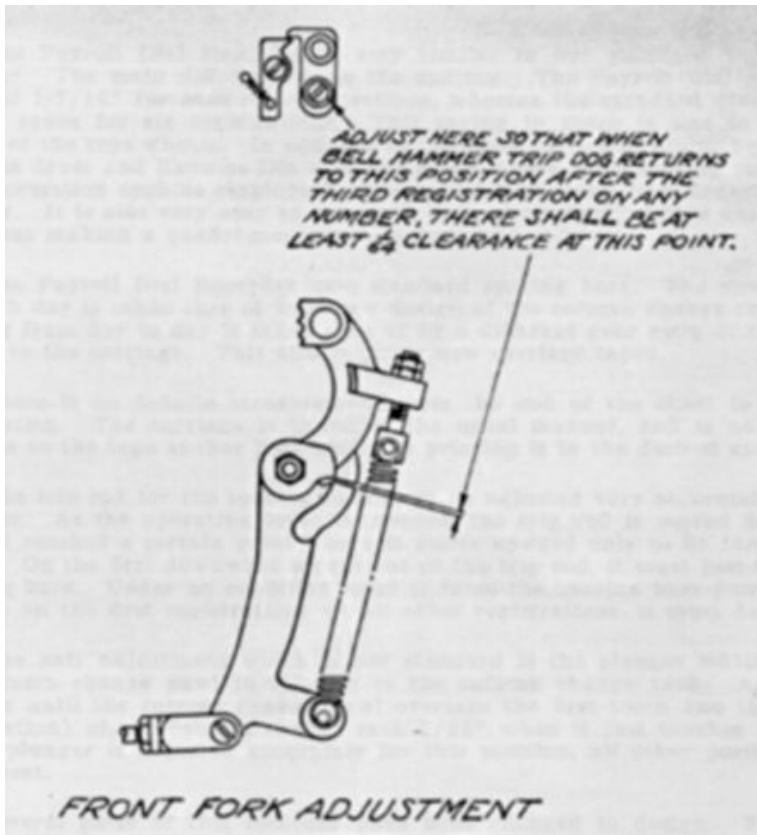

Fig. 9
7. The bell hammer dog should be adjusted so that when the pawl trips under the dog after the third registration, there will be at least $\frac{1}{64}$ " air gap in the elbow of the front fork. (See Fig. 9).